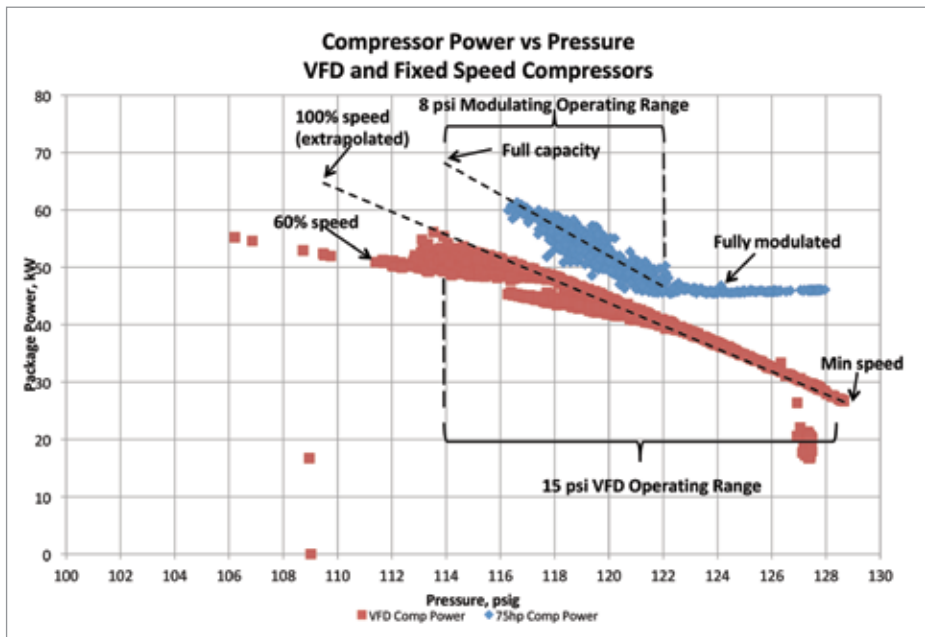

Figure 2. Total power versus flow curve before improvements.
- The overlapping ranges caused both air compressors to always operate in parallel. Even when flow was 120 scfm, both air compressors were on, consuming 75 kW. This was very inefficient as shown in Figure 2.